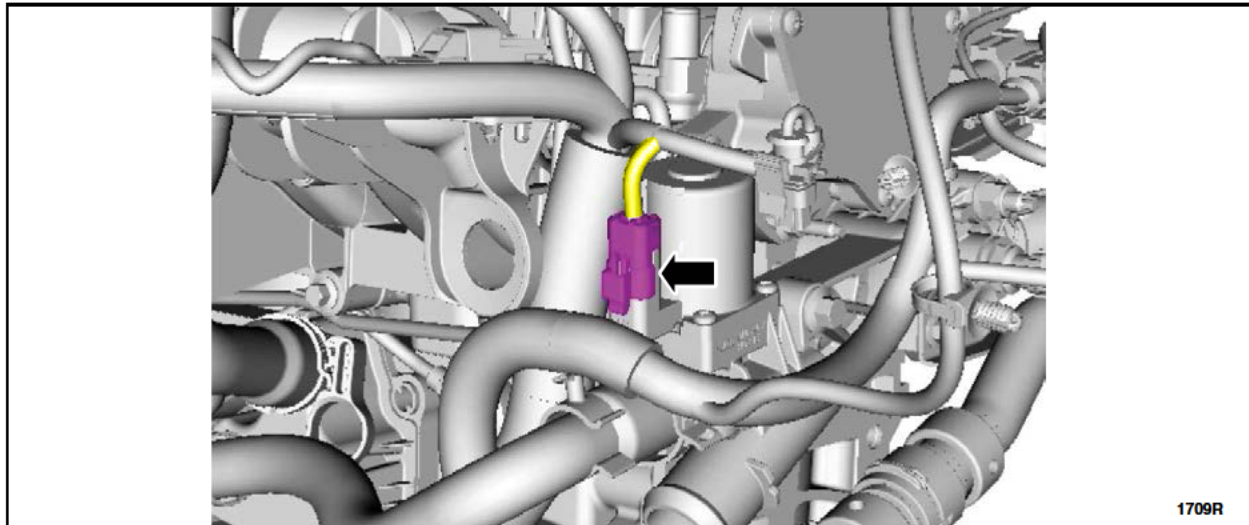

FIGURE H1
1. Disconnect the engine coolant bypass valve electrical connector. See Figure H1.